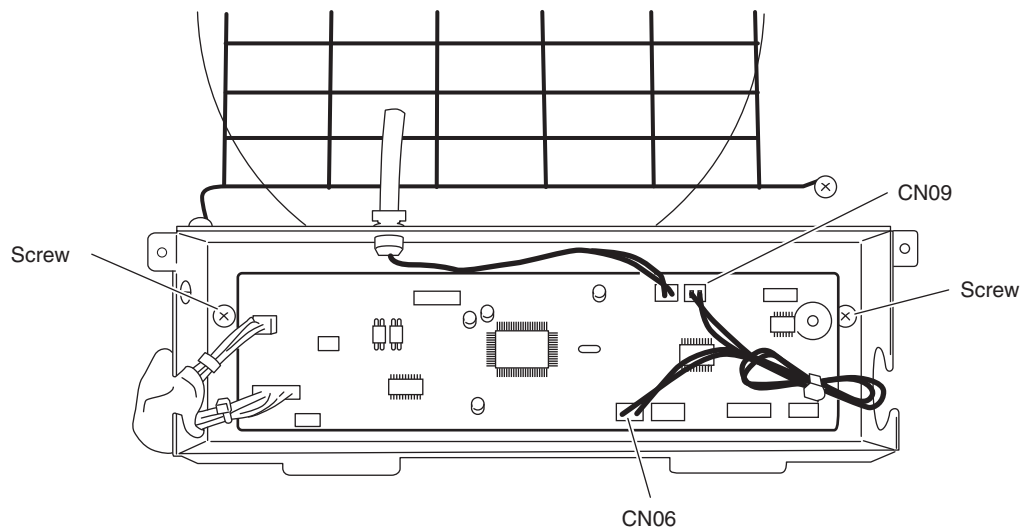

Fig.15
- (7) Disconnect the connectors CN06 (FS 3P) and CN09 (COIL-1 2P) in the control box. (Fig. 15)
- (8) Remove the 2 screws and remove the control box. (Fig. 15)